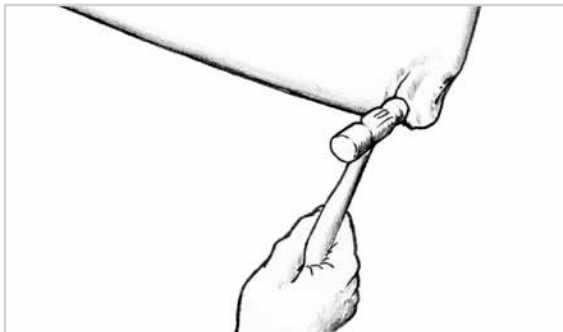

Figure 8-2 Use a ball-peen hammer, with repeated light taps to work the lead bulge back to its original shape.
3. Forge displaced lead toward voids with a ball-peen hammer. As the lead is deformed from an impact, it's common to find a bulge to one or both sides of a dent or gouge. Use repeated light taps to work the lead back to its original shape (Figure 8-2). Too heavy a blow will shear sections of lead. With experience, you will soon be able to gauge how much force you can use and how much lead can be moved before shearing occurs. Some alloys are more malleable and easier to forge than others.